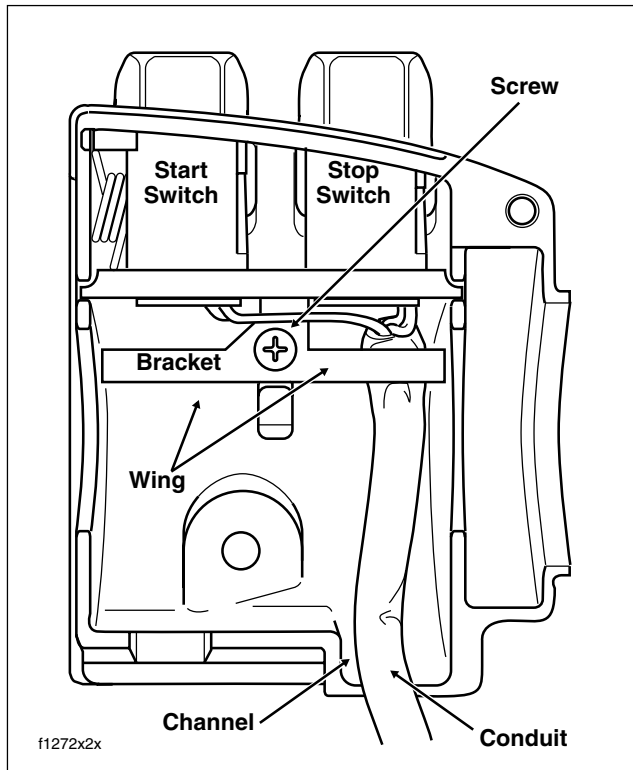
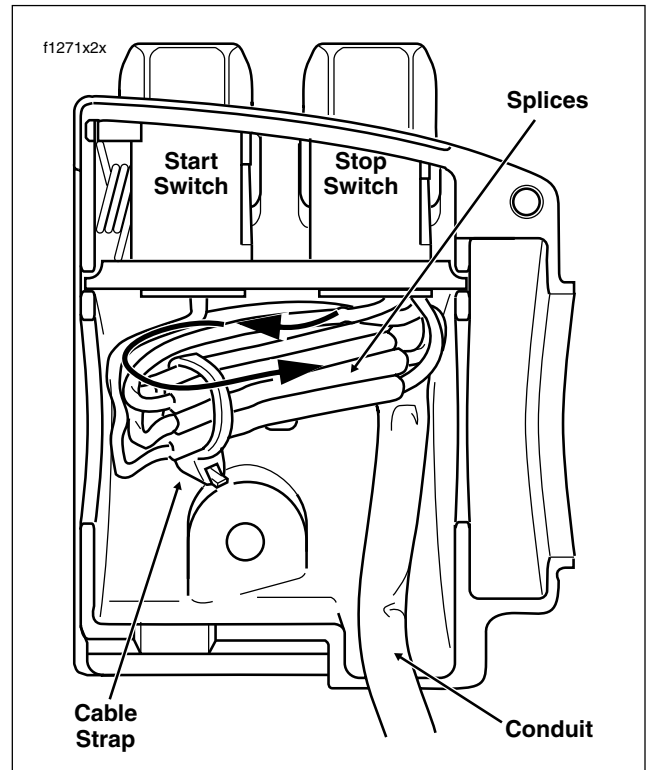

Figure 8-99. Upper Right Handlebar Switch Housing (Without Splices)
Figure 8-100. Upper Right Handlebar Switch Housing (With Splices)
1. From inside the switch housing, remove the Phillips screw to release the bracket. Remove the bracket and switch assembly from the housing. See Figure 8-99.
6. Loop switch wires so that spliced lengths are positioned as shown in Figure 8-100. Route wires downstream of splices beneath wing on Engine Stop Switch side of bracket as seen in Figure 8-99.
9. Install Phillips screw to secure bracket inside housing. Verify that wing on Engine Stop Switch side of bracket captures edge of conduit as shown in Figure 8-99.